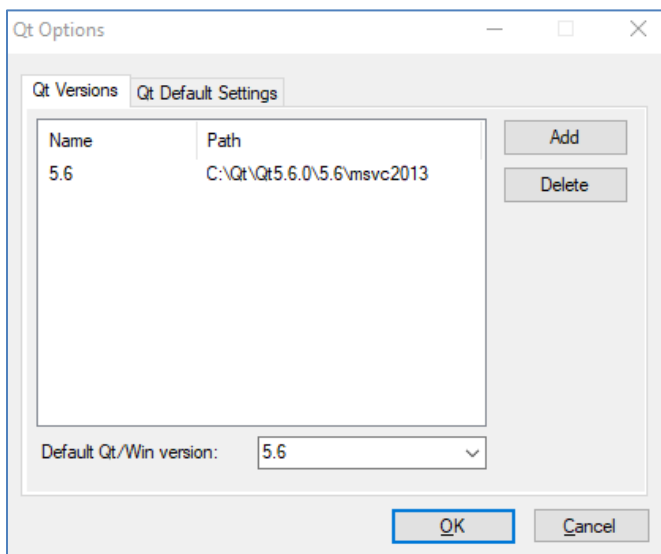

Figure 1: QT Options Dialog
2. Verify that the entry matches the entry shown in Figure 1.